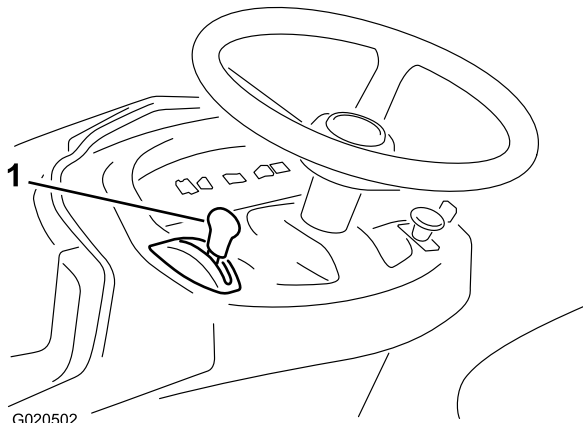

Figure 9
6. When starting a cold engine, push the throttle control lever fully forward to the choke position (Figure 9).
8. After the engine starts, slowly shift the throttle control lever to the Fast position (Figure 9).
1. Move the throttle control lever to the Slow position (Figure 9).
2. Turn the ignition key to the Off position (Figure 9).